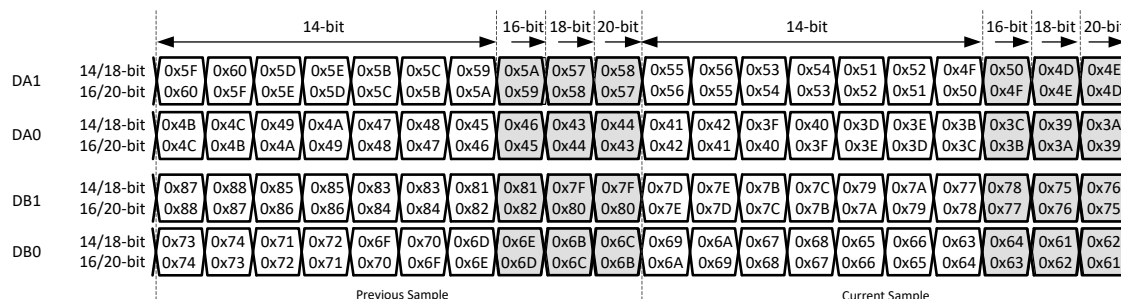

图 8-36. 2-wire output bit mapper
**2-wire mode:** in this mode both the current and the previous sample have to be used in the address space as shown in 图 8-36. The address order is different for 14/18-bit and 16/20-bit. Note: there are unused addresses between samples for resolution less than 20-bit (grey back ground), which can be skipped if not used.